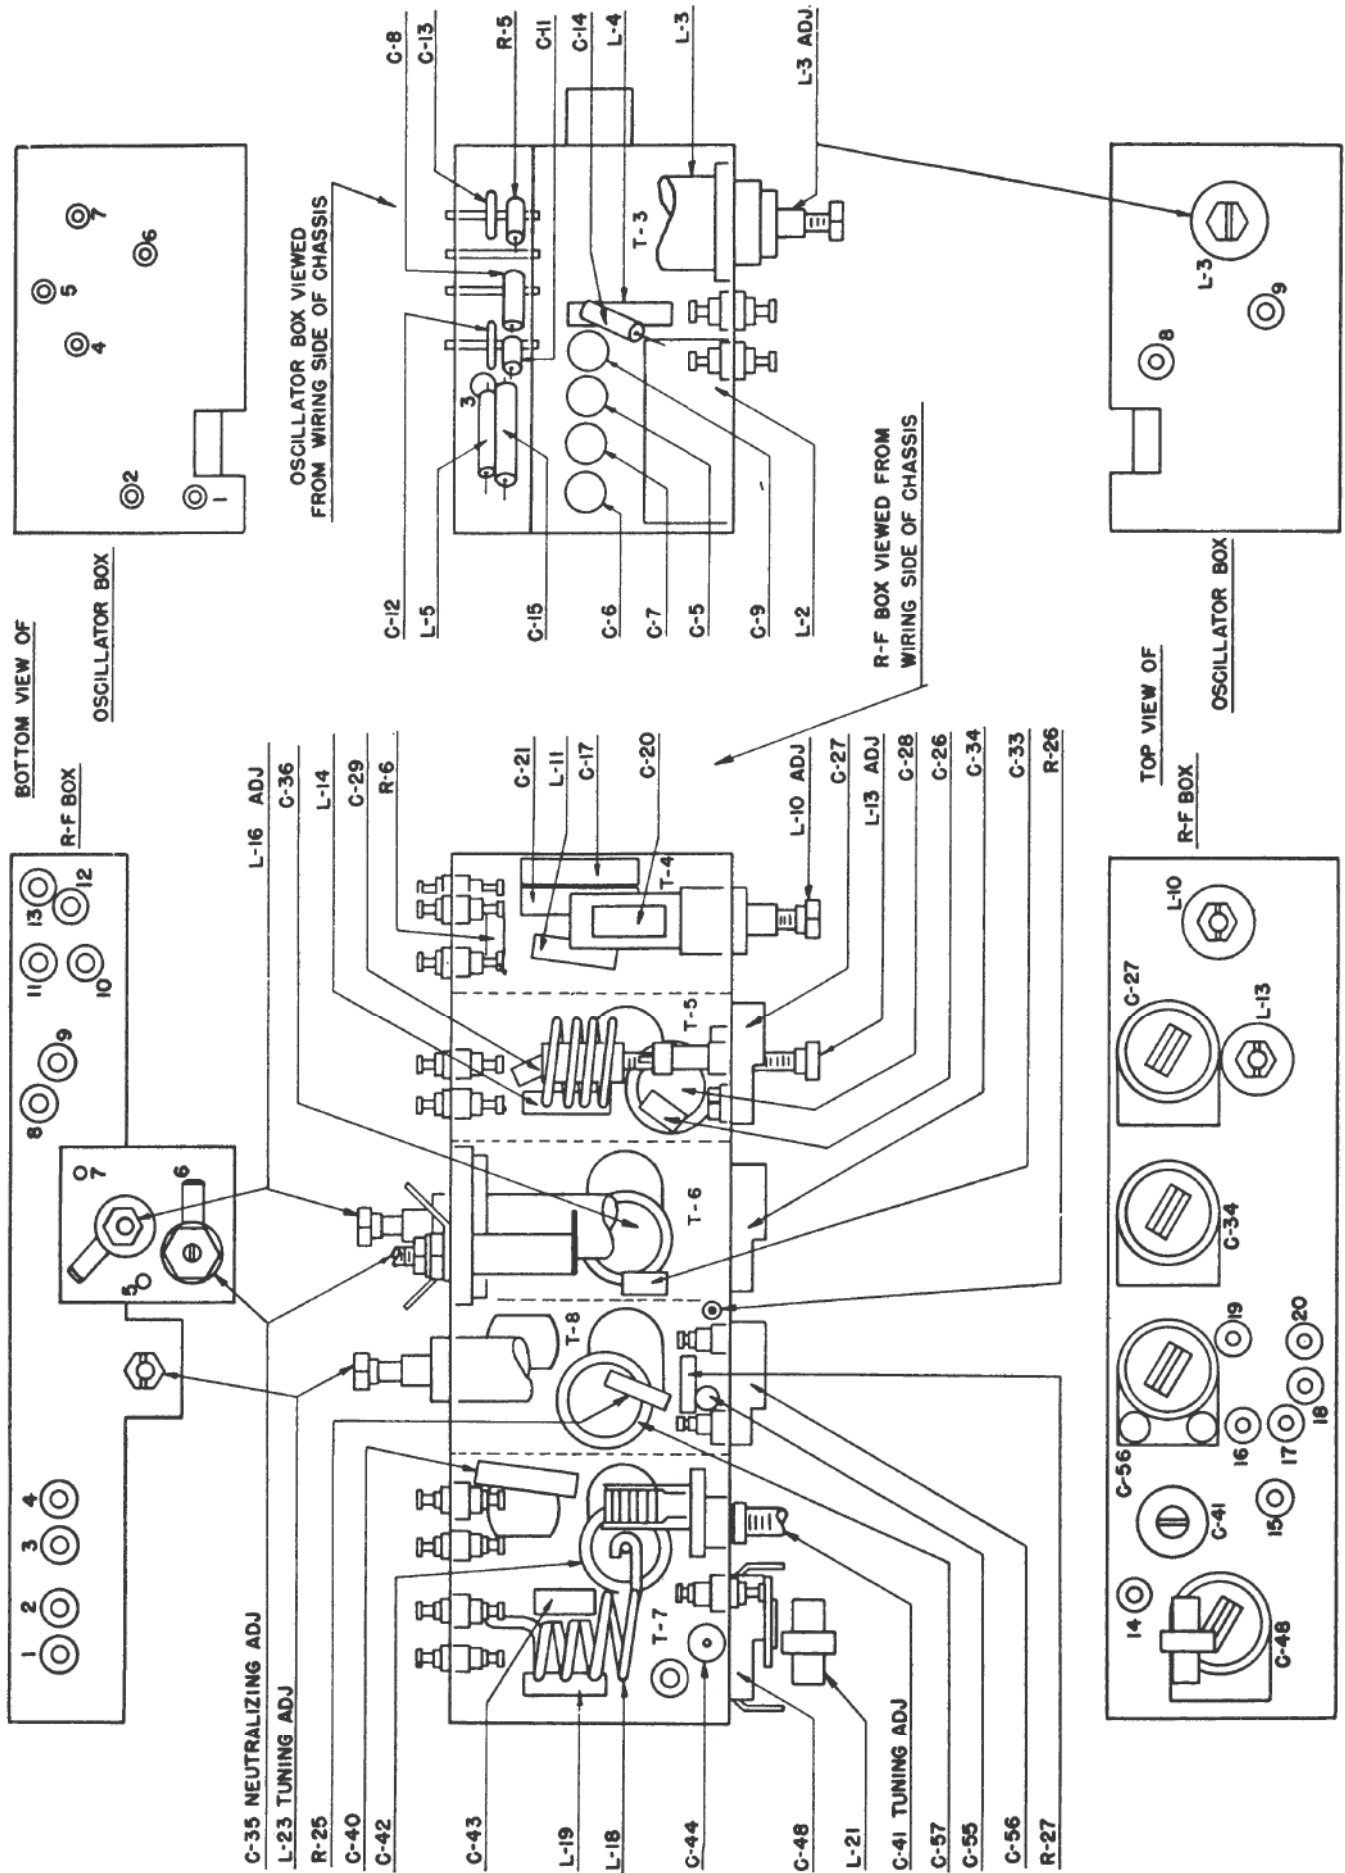

Figure 48. RF coil compartment, component location diagram.
- (8) Reinsert the connector from the rear of the panel.
- (9) Reinsert the lockwasher and the nut with the spanner wrench.
- (10) Screw the nut on the connector. Check the assembly for tightness.
- (11) Reassemble the panel to the rest of the unit.
d. Replacement of RF Coils. The RF coils of both the transmitter and the receiver are located in compartments of an assembly mounted on the wiring side of the RF chassis (fig. 47). The location of parts, terminals, and tuning controls in the RF coil compartment is detailed in figure 48.
- (1) Disassemble the RF chassis from the rest of the panel and chassis assembly as described in paragraph 62. Place the RF chassis with the wiring side up.
- (2) Remove the six (three on top and three on the side) machine screws which hold the cover of the coil compartment in place. The partitions separating the RF coils from each other are part of the cover.
- (3) To replace any of the RF coils, proceed as follows:
- (4) Replace the cover and mounting screws.